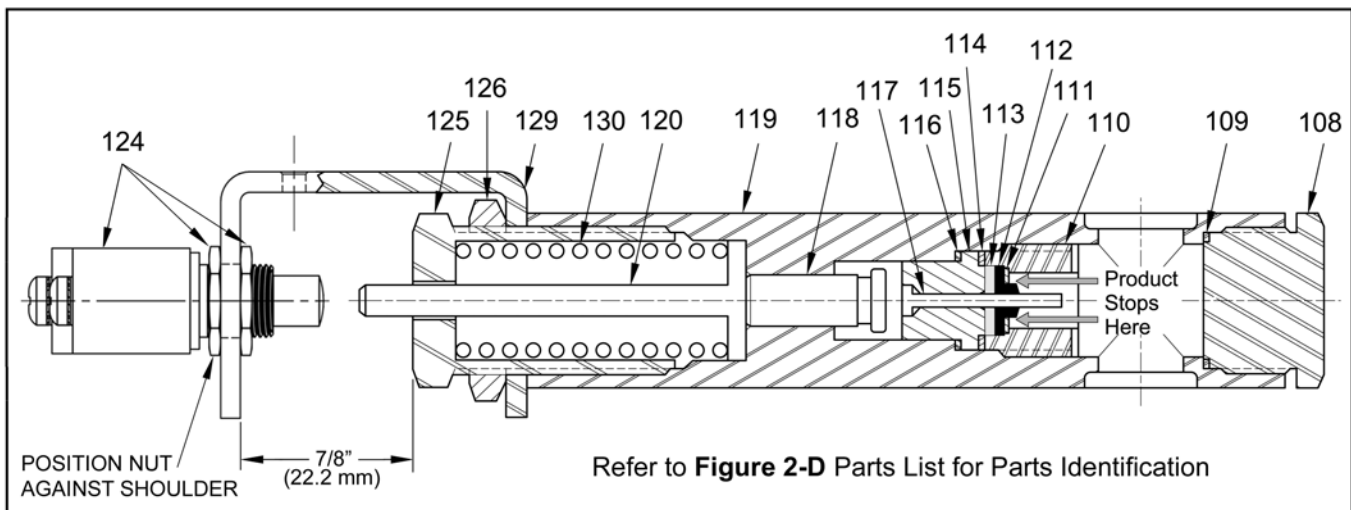

Figure 8 Pressure Switch Assembly - Section View
21. Loosen Locknut (126).
IMPORTANT: Record the distance from the top of the screw(125) and bottom of the bracket (129). Distance should be approximately 7/8" (22.2 mm). Refer to Figure 8.
22. Remove Screw (125) from Switch Body (119) and Bracket (129).
NOTE: Refer to **Figure 2-D** and **Figure 8** for component identification.
NOTE: If unsure of the distance, set the Screw to create a gap of 1/4 " (6.4 mm). See **Figure 8**.